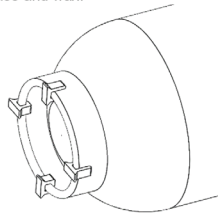

FIGURE 4
- 3.1 **See Fig 4**--If your tank sits directly on the ground or other flat surface, then you will need to install the Mopeka spacers to the bottom of the foot ring of your tank. This will provide adequate space and improved wireless range for the sensor.